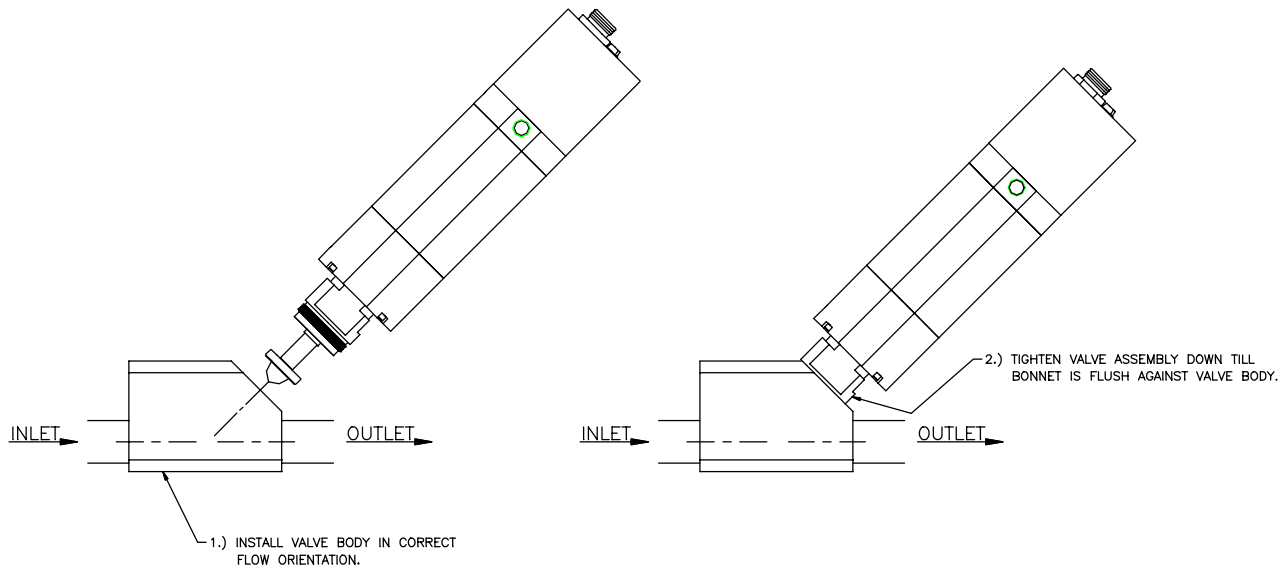

FIGURE 2
3. Install valve body in correct flow orientation. (Figure 2)
4. Tighten valve assembly down till bonnet is flush against valve body. (Figure 2)